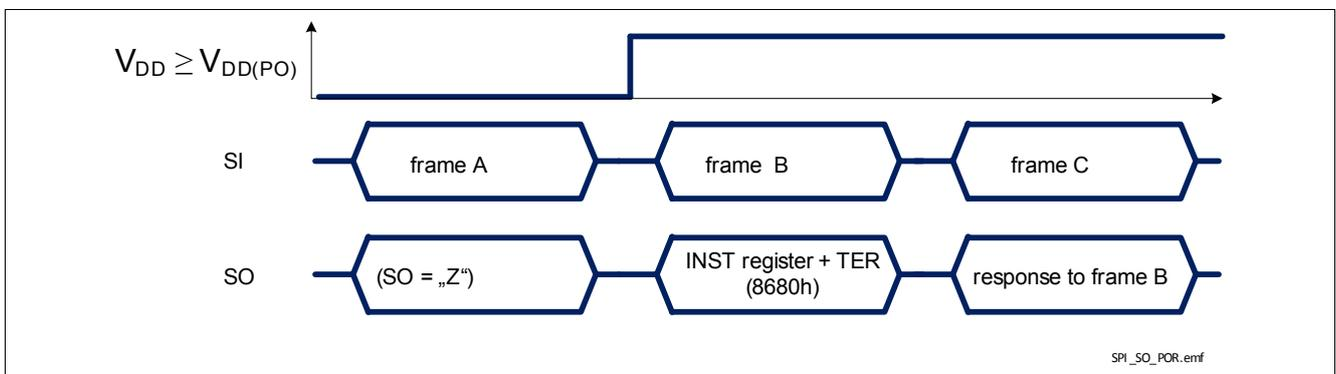

Figure 35 TLE75080-EMH response after coming out of Power-On reset at  $V_{DD}$
- when TLE75080-EMH logic supply comes out of Power-On reset condition or after a Software Reset, as shown in Figure 35